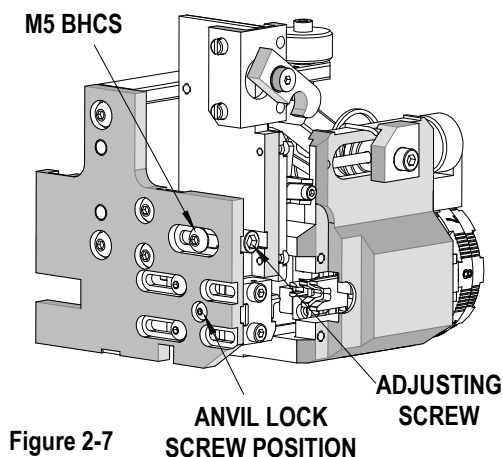

Figure 2-7
2. To move the track in the proper location with the anvils and the cut-off plunger take the applicator out of the press, and turn the applicator on its side. Loosen the M5 X 6 BHCS underneath the base plate which is attached to the track base. See Figure 2-7.